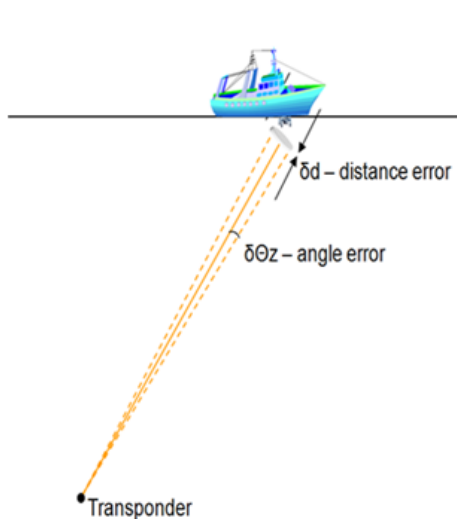
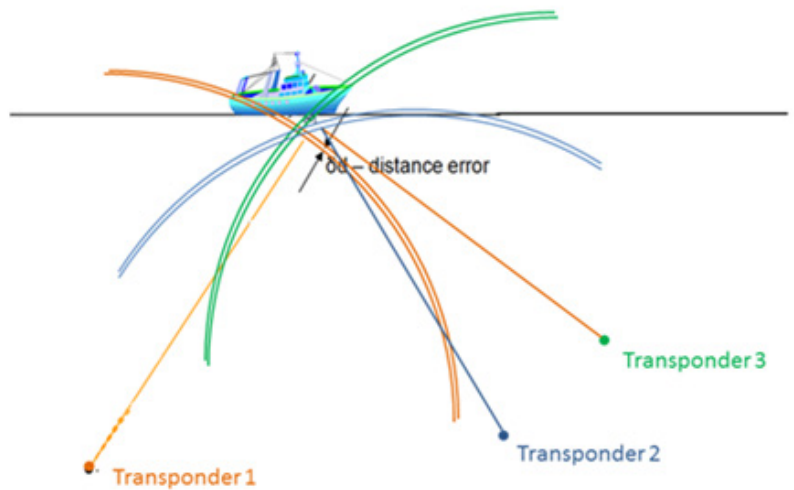

Figure 52 – USBL computation
Figure 53 – LBL computation
- If less than three moored transponders are available then the position is computed by USBL (see Figure 52).
- If at least three moored transponders are available then the positioning is provided by both USBL and LBL computations (see Figure 52 and Figure 53). The LBL computation is made from the travel distances of at least three moored transponders.